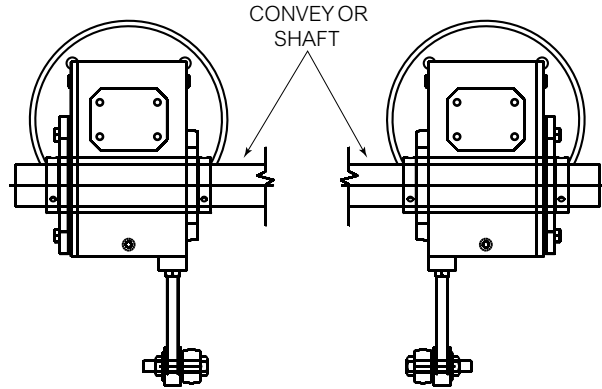
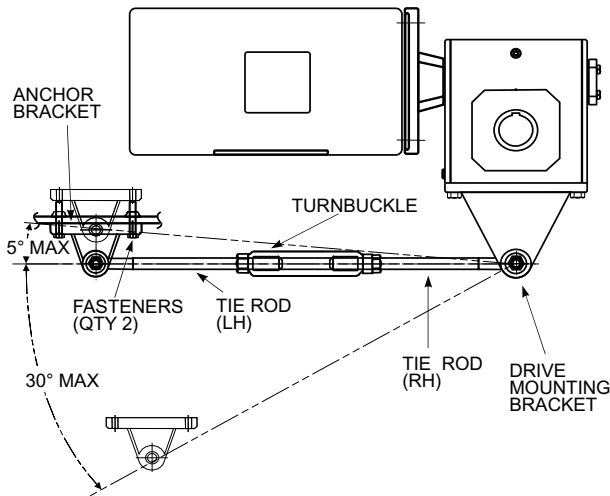

Figure 10 — Mounting Configurations (Omnibox)
Figure 13 — Torque Arm Slope
- 2.0 Install the drive mounting bracket and provided fasteners to the Omnibox drive as shown in Figure 13. Tighten either the 5/16-18, 3/8-16 or 7/16-14 fasteners to 17, 31 and 50 lb-ft, respectively. Do NOT lubricate fasteners. Refer to figure 10 for acceptable mounting configurations.
- 6.0 Lift the Omnibox drive and motor assembly into position and slide onto the conveyor shaft taking care that the driven shaft key seats into the hollow shaft keyway. Position the drive as close as possible to the conveyor frame. DO NOT hammer or use excessive force. Refer to Figure 10 for acceptable mounting configurations. Support the Omnibox drive and motor assembly in a horizontal position while completing the remaining steps.
9.0 Mount the anchor bracket to the conveyor support frame using the fasteners provided. Install bolts, washers, lock washers and nuts, apply Loctite 242 or equivalent to threads. Tighten the 5/16-18 fasteners to 17 lb-ft (see Figure 13). Modifications to the support frame may be necessary to achieve the torque arm slope and parallel mounting requirements shown in Figures 13 and 14.
The position of the torque arm may vary within the range shown in Figure 13. The length of the rod ends may be adjusted to fit the installation. The maximum and minimum torque arm lengths are provided in table 2. For torque arm mountings other than shown in Figure 13, refer to Rexnord.